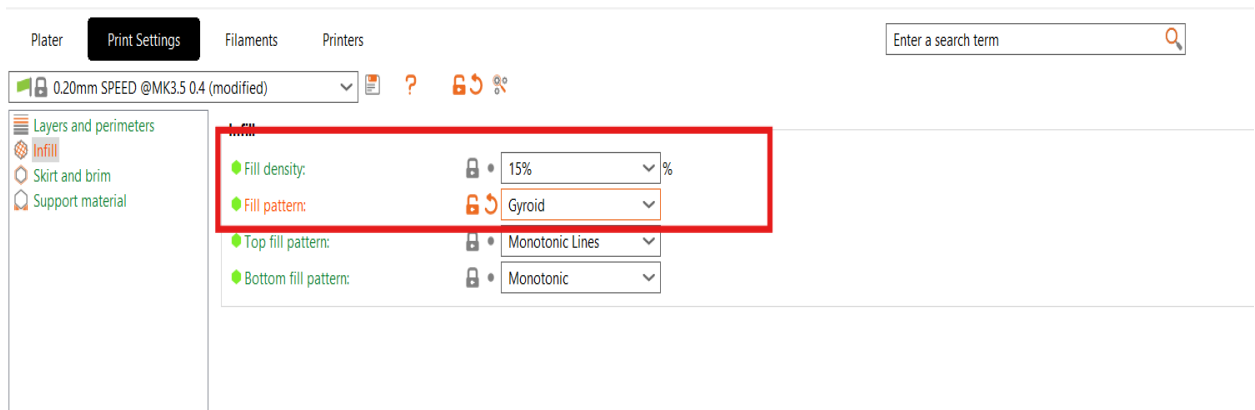

Figure 3. Adjusted Infill Settings.
5.) Change the fill density to 15% and the fill pattern to Gyroid (see red box in Figure 3).